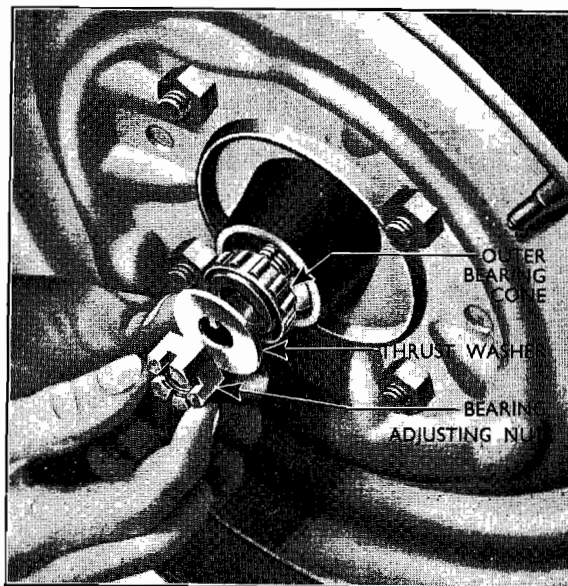

Fig. 1
3. Remove the split pin locking the adjusting nut (see Fig. 1).